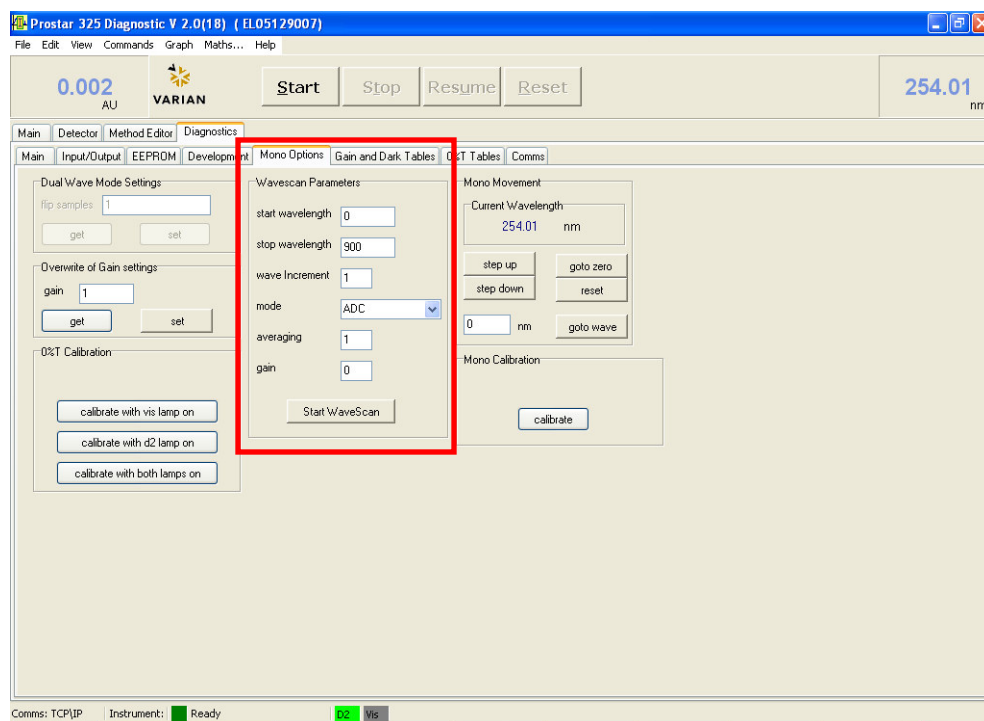

Figure 1
3. Make sure that the WaveScan options duplicate the ones shown below (Fig 1)